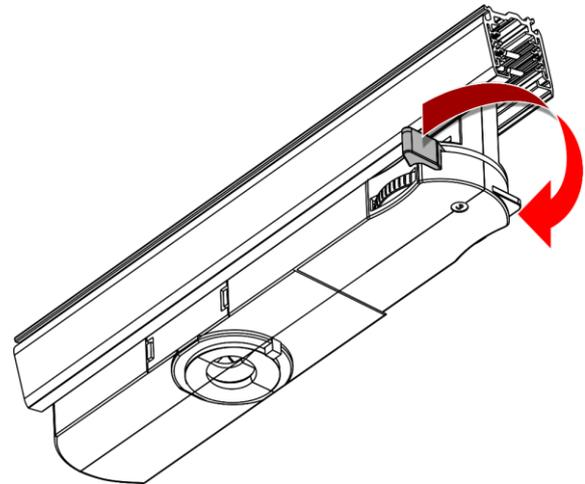

Fig. 07
- 04) Insert the **track adapter (01)** in the track and push it until it snaps into place.
05) Turn the **track lock (02)** clockwise to lock the device in the track, as shown in Fig. 07.